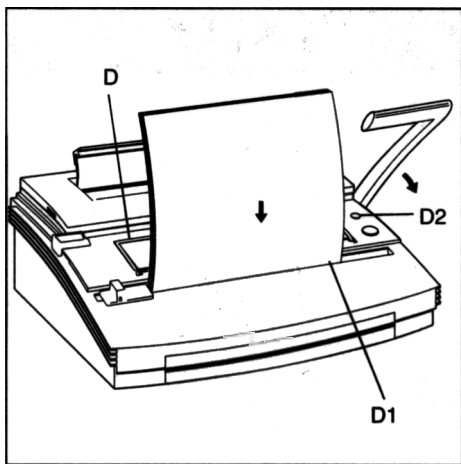

Figure 2
D. PUNCHING PAPER (see figure 2)
1. Lift the Paper Support (D) into place (optional).